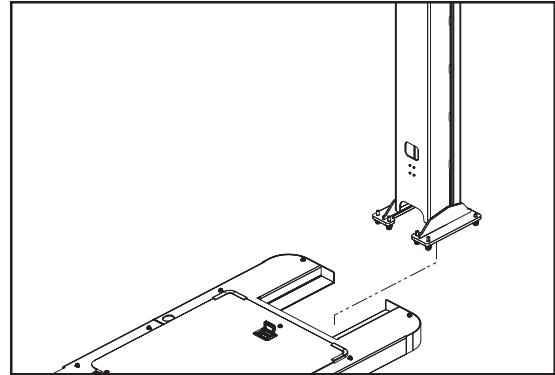

Figure 5-25. Orientation for Mast 1 Installation
1. Carefully lift and lower mast 1 assembly on the base in proper orientation with a suitable lifting equipment. See Figure 5-25.